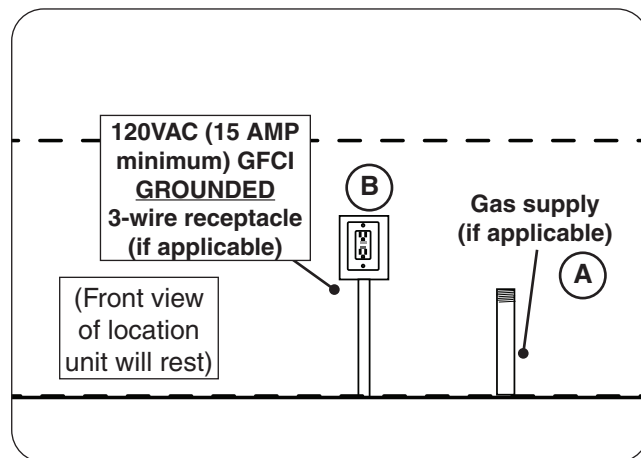

Fig. 24-1 Route gas and electrical (as applicable)
1. Ensure the gas supply is properly routed into the area that the unit will rest over (see Fig. 24-1, A).
1. Wire the receptacle into the area that the unit will rest over (see Fig 24-1, B).